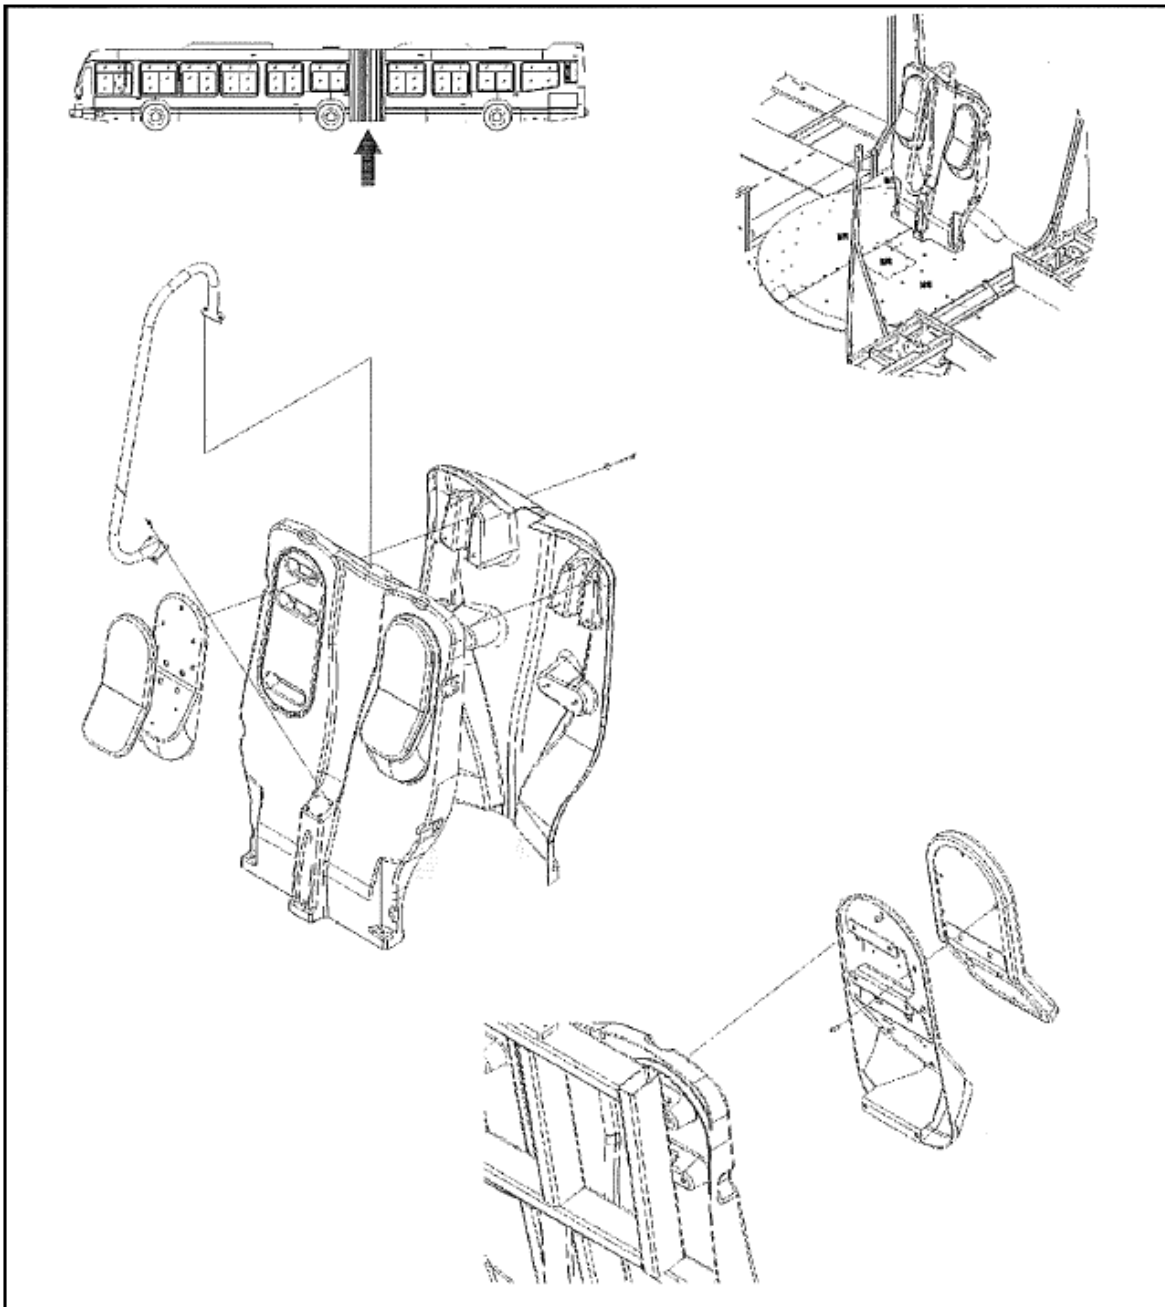

Figure 1 - Front and Rear Bum Rest Views
1.1. Remove the front and the rear bum rest shells. Retain the removed parts. See Figure 1.